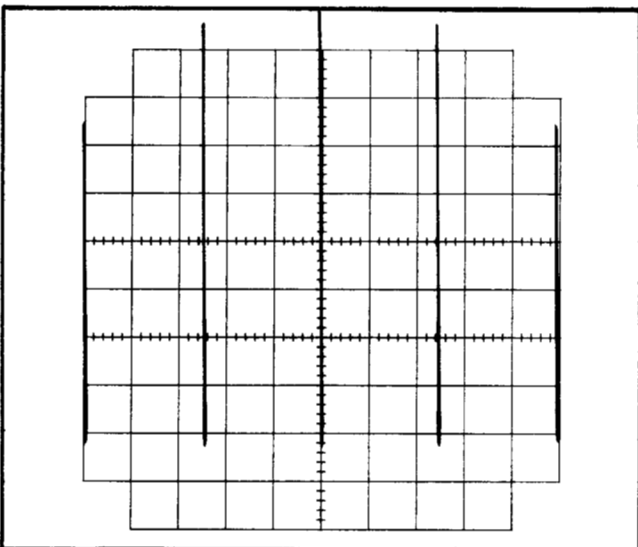

Fig. 5-5. ISOLATION SHIELD and INTERGUN SHIELD adjustments display showing falling portion of time-marker pulse.
3. Set Upper Beam vertical POSITION so the base of the waveform is off the crt as far as possible without bringing the tips of the waveform onto the crt. The display should consist of vertical lines only representing the falling portion of the time-markers as shown in Fig. 5-5.